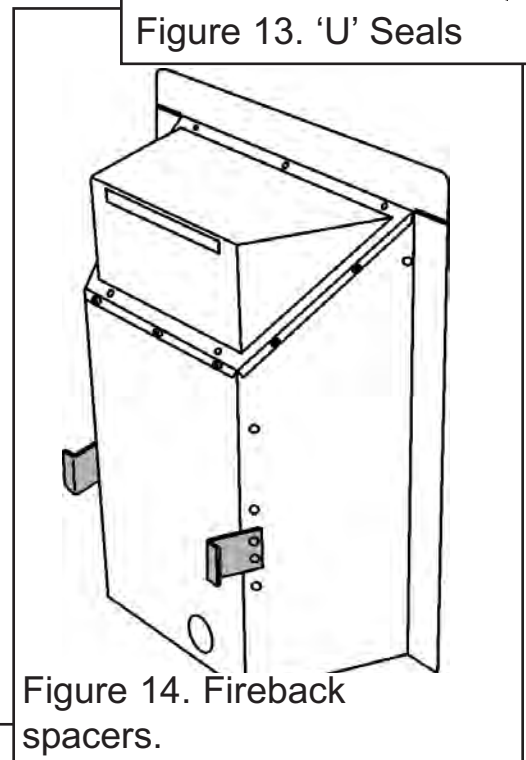

Figure 14. Fireback spacers.
7. **The appliance is supplied with two fireback spacers that must be fitted in all installations.** These should extend backwards to ensure sufficient clearance from the back of the fireplace. Position the fireback spacer as shown in figure 14. Secure the fireback spacers using the four tapping screws supplied with the fire.